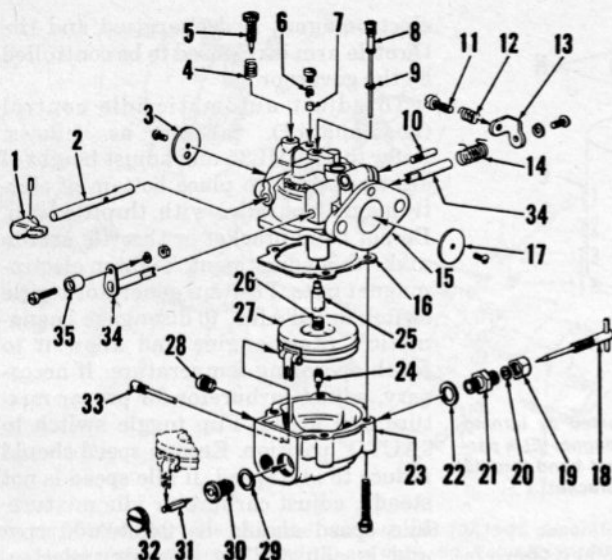
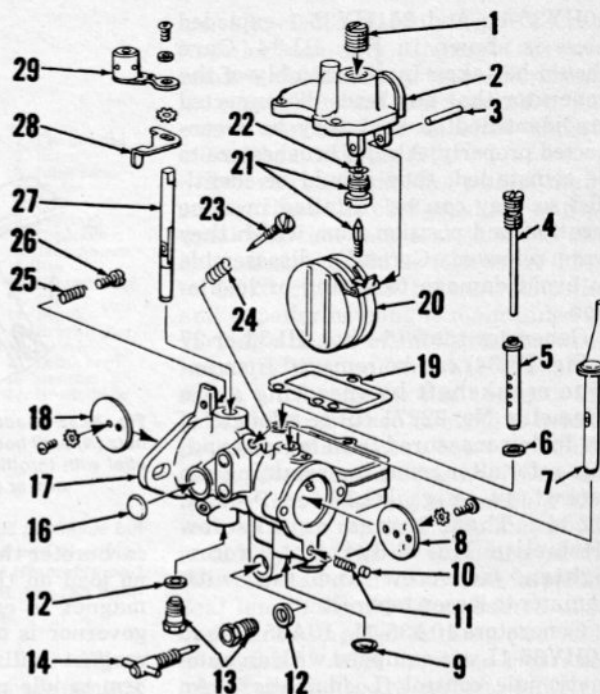

Fig. HL40—Exploded view of typical Tillotson Series MD carburetor as used on some Homelite pump models.
Fig. HL41—Exploded view of typical Series MT Tillotson float type carburetor as used on some Homelite pump and generator models.
refer to appropriate exploded view in Fig. HL40 or Fig. HL41, or to the cross-sectional view in Fig. HL43.
Normal idle needle (5—Fig. HL40) setting for Tillotson MD carburetors is $\frac{1}{4}$ -turn open; main (high speed) needle (18) setting is $1\frac{1}{4}$ - $1\frac{1}{2}$ turns open. Float setting with fuel bowl assembly held in upside down position should be $\frac{1}{32}$ -inch from the lowest point of float at free end, to rim of fuel bowl.
Normal idle needle (23—Fig. HL41) setting for Tillotson MT carburetors is $\frac{3}{4}$ -turn open; main (high speed) needle (14) setting is 1-turn open. Float setting, with the float bowl cover assembly (2) inverted, should be $1\frac{13}{32}$ -inch as measured from the top of the float (20) to the gasket surface of the float bowl cover.
Fig. HL42—Exploded view of fuel system on models using Tillotson float type carburetor. Exploded view of carburetor is shown in Fig. HL41. Actuating primer bulb (14) will pump fuel into carburetor float bowl.